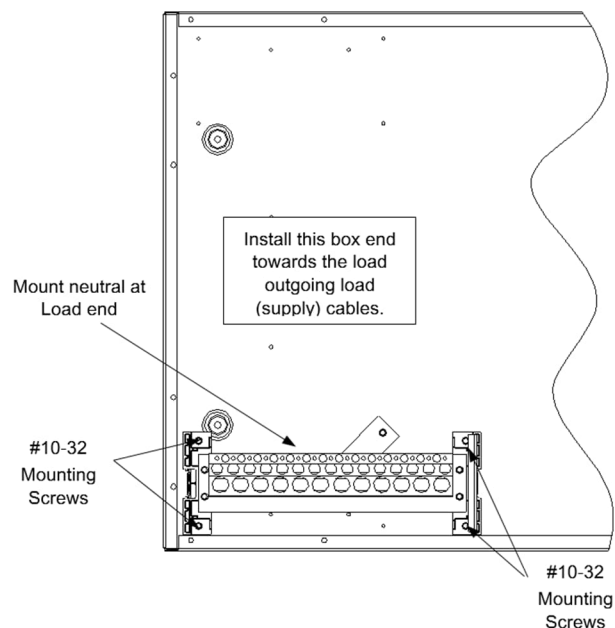

Figure 1. Neutral mounted in the enclosure.
2. Mount the neutral at either location in the corner of the panelboard enclosure as shown in Figure 1. Place the neutral over the mounting holes provided inside the enclosure and tighten the neutral assembly using 4 no's of #10-32 screws as shown in Figure.1 using torque of 27-32 in.-lbs.